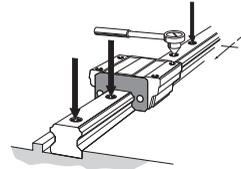

Fig.6 Fully Fastening the Mounting Bolts
- (4) Tighten the mounting bolts at the designated torque using a torque wrench. (See Fig.6, and Table1 and Table2 on **A1-322**.)